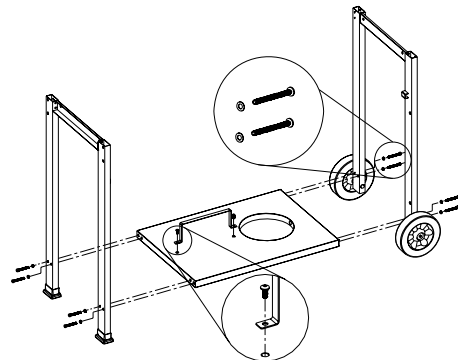

Figure 3
3. Assemble cart leg with bottom panel using (8) 1/4 x 1.38" Phillips head screw with (8) 1/4" lock washers for each leg. Attached the tank barrier using (2) 1/4 x 3/5" Phillips head screw and (2) 1/4" lock washers. (Fig.3)